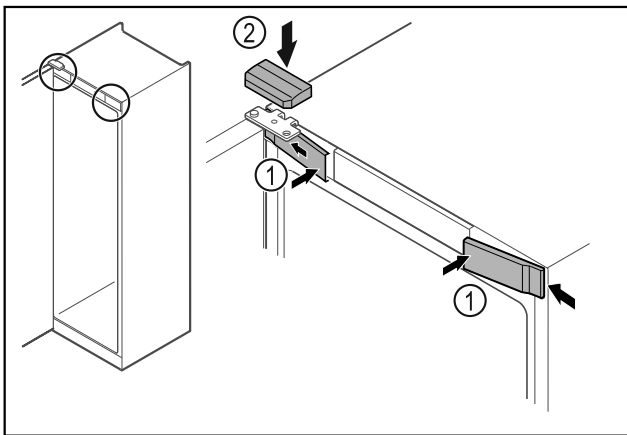

Fig. 66
- ▶ Hook in the front covers Fig. 66 (1) on the side and snap them into place.
- ▶ Snap on the top cover Fig. 66 (2) from above.